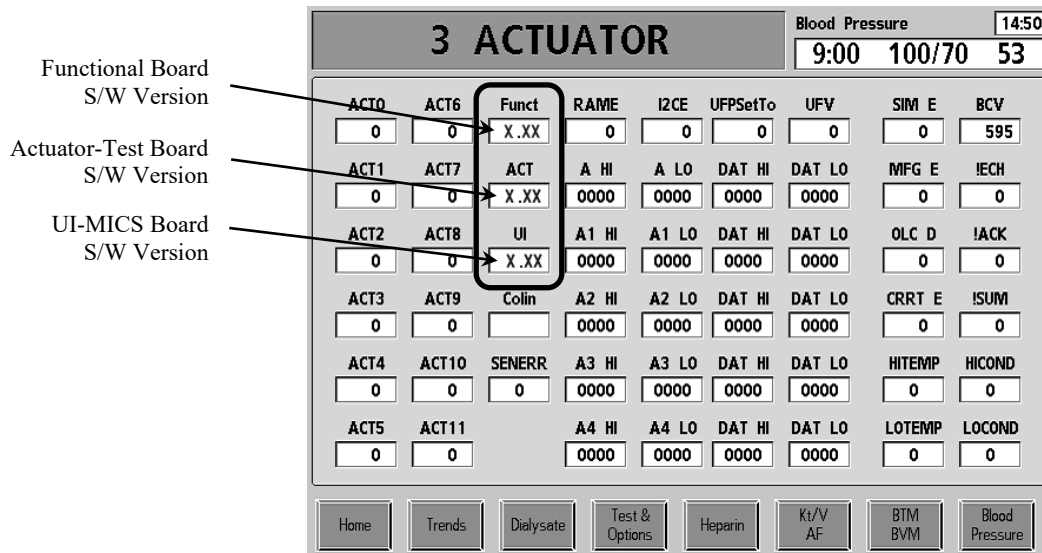

Figure 1
28. Use the up or down arrow keys to go to debug screen 3 ACTUATOR and verify that the new software versions are correct. See Figure 1 for software version locations on the debug screen.